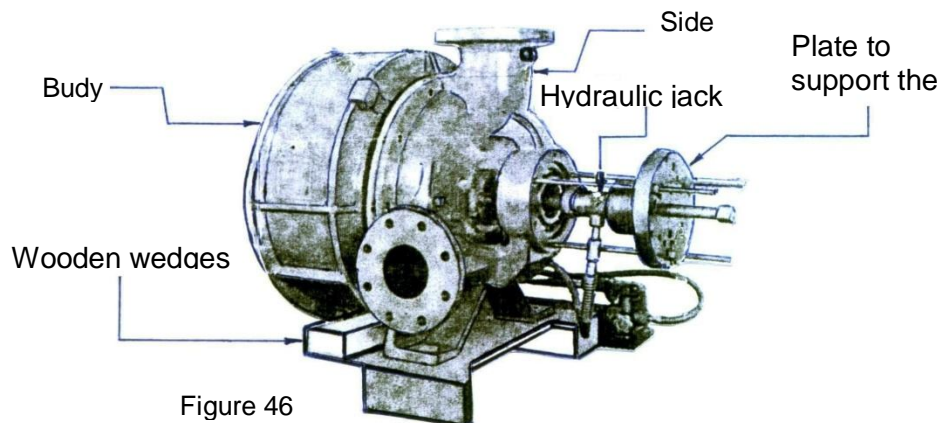

Figure 46
- b. Place a hydraulic jack between the tip and shaft support system as in Figure 46.